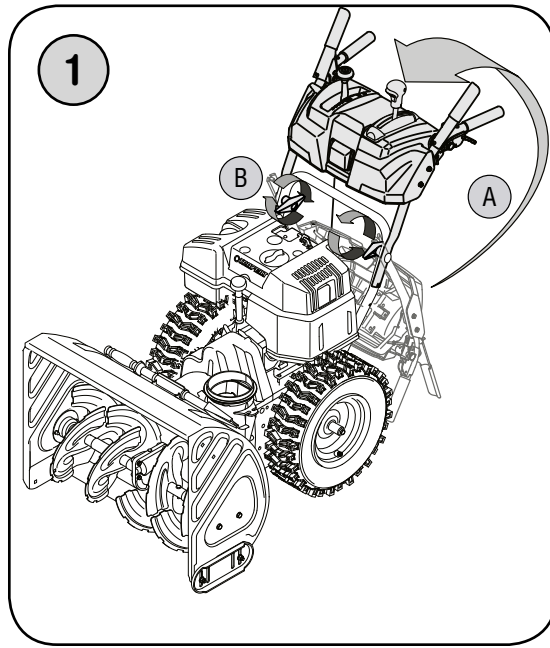

Figure 1
- a. Pull up and back on upper handle as shown in Figure 1. Align upper handle with the lower handle.